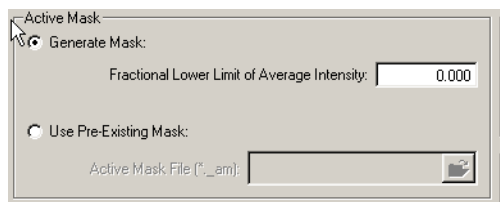
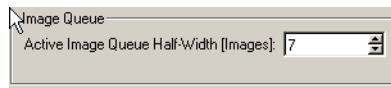

Figure 7.13 - The Active Mask tool
Figure 7.15 - The Image Queue tool
4. Click on More Options. This results in an expanded window (see Figure ) and gives access to several other useful features, in particular Active Mask (see Figure 7.13), Algorithm (see Figure 7.14), and Image Queue (see Figure 7.15).